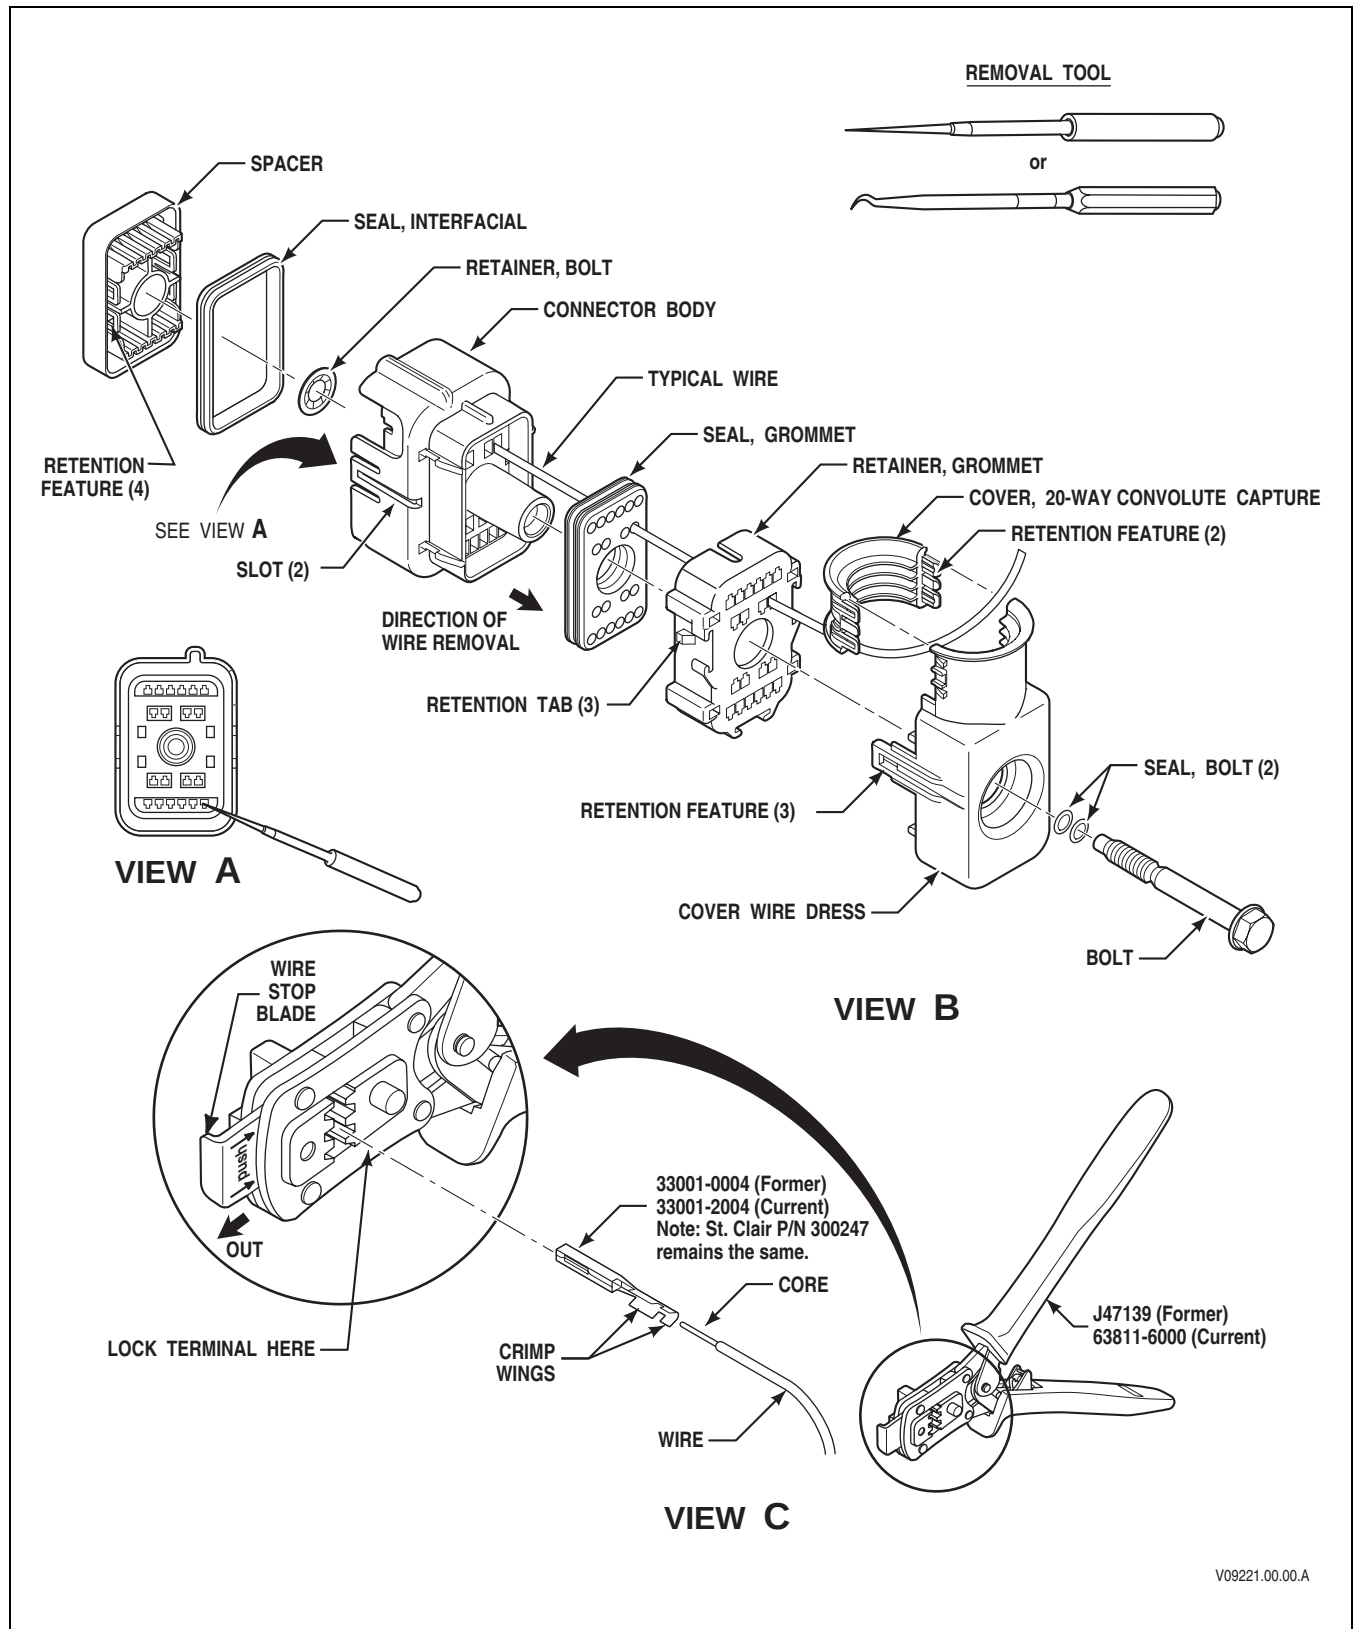

Figure E-3. AFL Automotive 20-Way, Bolt-Assist TCM Connector
1. Loosen the bolt (Figure E-3, View B) that retains 20-way connector to the transmission pass-through connector.
3. Use a small-bladed screwdriver to gently unlatch the retention features (2) of the wire dress cover and remove it from the backshell wire dress. Gently release the retention features (3) of the backshell wire dress and remove it from the connector body.
7. Insert the metal blade of J 38125-12A or J 39227 remover tool into the small hole in the front of the connector body above or below the desired terminal/wire lead cavity location (See Figures E-3, View A).
2. Refer to Figures E-3, View C. Pull out the wire stop blade of the crimping tool so it is clear of the terminal crimp area. Place the terminal all the way into the appropriate wire size opening of the J 47139 (former) or 63811-6000 (Molex P/N, current) crimping tool until it contacts the stop and is properly oriented. Squeeze the handle enough to keep the terminal in place in the tool but not enough to compress the crimp wings.
9. Refer to Figures E-3, View A. Align the three retention features of the backshell wire dress with the three lock tabs on the grommet retainer and press the backshell wire dress onto the grommet retainer until all three retention features lock. Align the wire dress cover with the backshell wire dress and press into place until it locks on both sides.